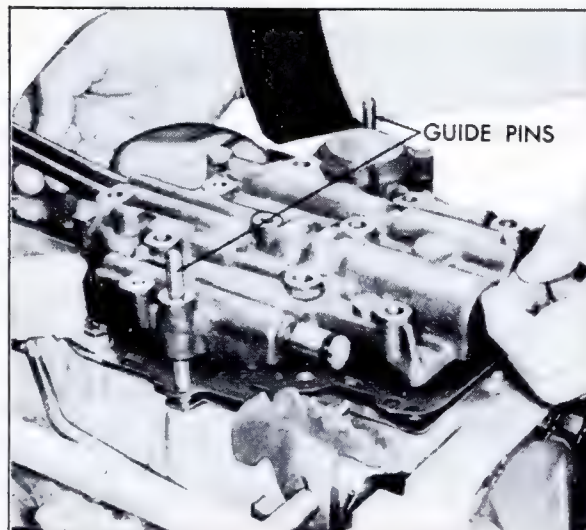

Fig. 7-118 Installing Control Valve Assembly
2. Using two control valve assembly attaching screws with heads cut off as guide pins, Fig. 7-118, install control valve assembly and governor pipes on transmission. Make certain gaskets and spacer do not become mispositioned.